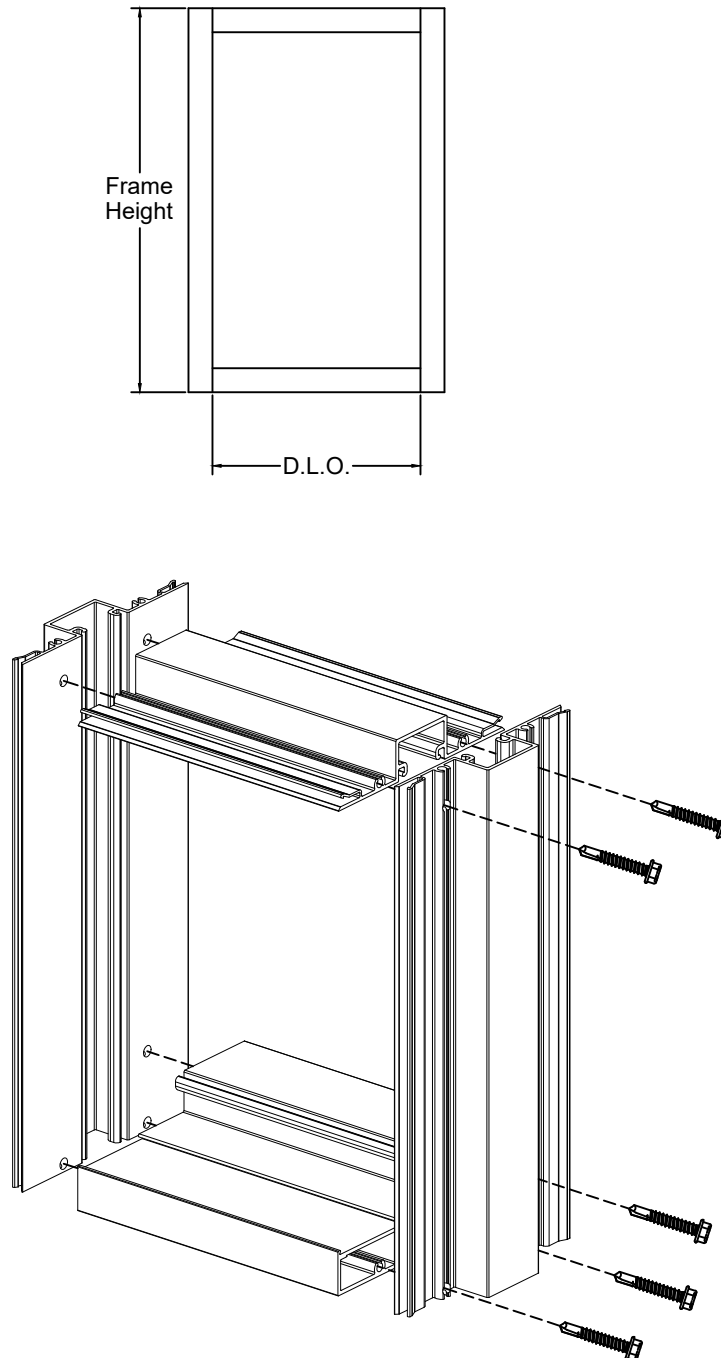

Fig.6C.1
- A. Assemble the framing units with the S419 frame screw as shown in figure 6C.1. Single and multiple lite elevations require different assembly configurations. Refer to the drawings below for assembly notes.